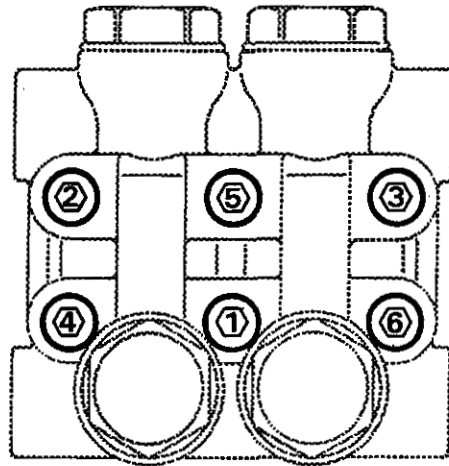

FIGURE 3
8. Install the six Allen head cap screws (201) and washers (202) finger tight. Torque the screws to 15.9 ft-lb (2.2 Nm) following the tightening pattern in Figure 3. Uneven tightening may cause the manifold to bind or jam.